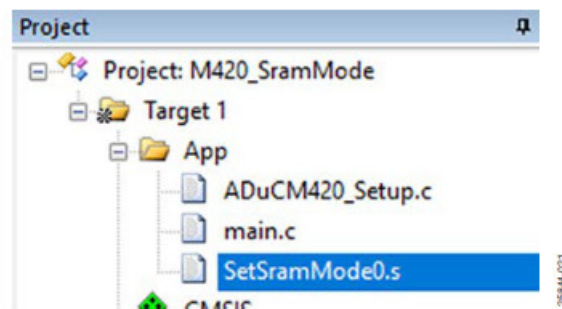

Figure 35. Set Up SetSramMode0.s
- By default, the M420_SramMode macro uses SRAM Mode 0. The SetSramMode0.s assembly file is added to the subdirectory as shown in Figure 35. Specify which SRAM mode to test in the main.c file. By default, SRAM Mode 0 is tested (see Figure 36).